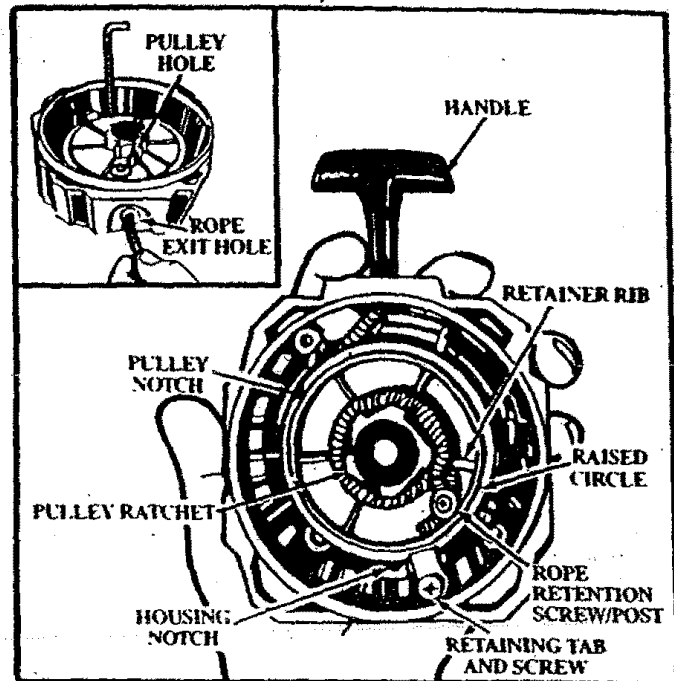

Figure 30
9. Hold Pulley Housing and hand turn the Pulley clockwise as far as it will go. Then, turn the Pulley counterclockwise until the Pulley Notch is aligned with the Housing Notch next to the Retaining Tab and Screw. Figure 30. Next, turn the Pulley one complete turn counterclockwise until the notches are aligned again.
10. Insert the small hex wrench into the hole formed by the Notches to hold the Pulley in position. Figure 30 (Inset).
15. Insert the other end of the Rope through the Rope Exit Hole, into the inside of the Housing, into the Pulley, and up through the Pulley Hole. See Inset, Figure 30.
16. Wrap Rope counterclockwise around the Pulley Ratchet and tuck loose end under Rope where it comes out of the Pulley Hole. Leave a 1-inch tail laying flat on top of the Pulley between the Retainer Rib and the rope Retention Screw/Post. Figure 30.